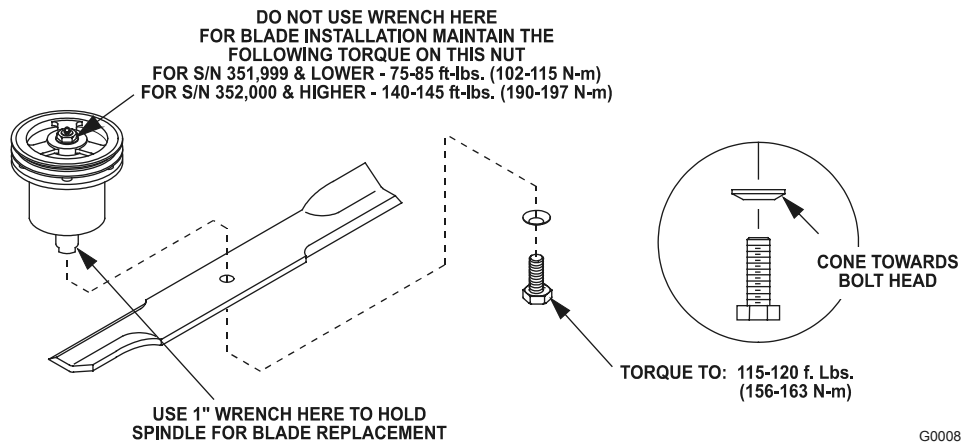

FIGURE 10
- g) Re-install the blades (if they were removed) and torque blade bolts to 115-120 ft. lbs. (156-163 N-m). Be sure the spring disc washer cone is installed toward the bolt head (See Figure 10).